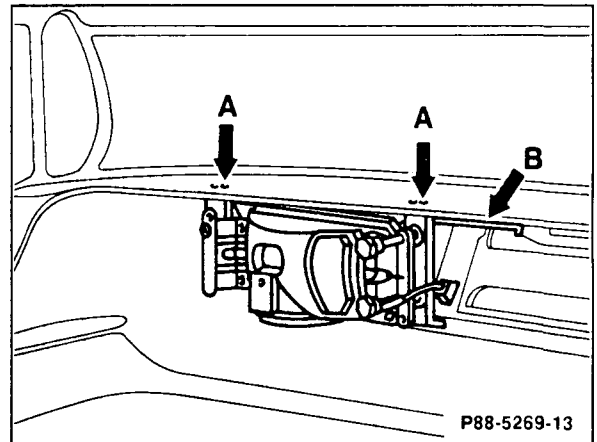

Figure 3
6. Modify beam by cutting out vertical rib (B, Figure 3) according to specification. Drill mounting holes for driving lamps.